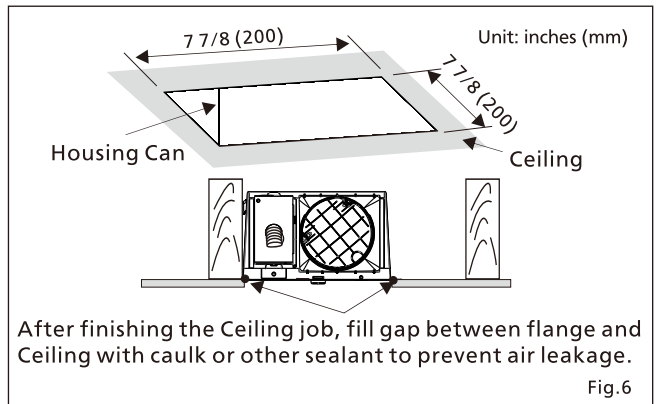

Fig.6
12. Finish Ceiling work. Ceiling hole should be aligned with the inside edge of the flange. (Fig.6)